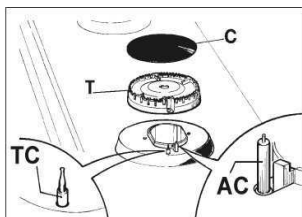

FIG. 6
- If the flame does not light after a few attempts, check that if the burner crown cap, outer burner cap and burner crown are correctly positioned or not. (see P.9 Fig.6 / 7)
- Periodically wash the hot plate, the enamelled steel pan support, the burner crown caps "A" and "C", outer burner cap "B", and the burner crown "T" (see FIG. 6 and 7) with lukewarm soapy water. Ignition plug "AC" and safety device "TC" (see FIG.6) should also be cleaned
- Check and make sure that the gas passage in the burner crown "T" (FIG. 6) is not blocked by foreign objects.
- To avoid difficulties with lighting, clean the ignition plug "AC" (ceramic and electrode) and safety device "TC" (FIG.6) regularly.